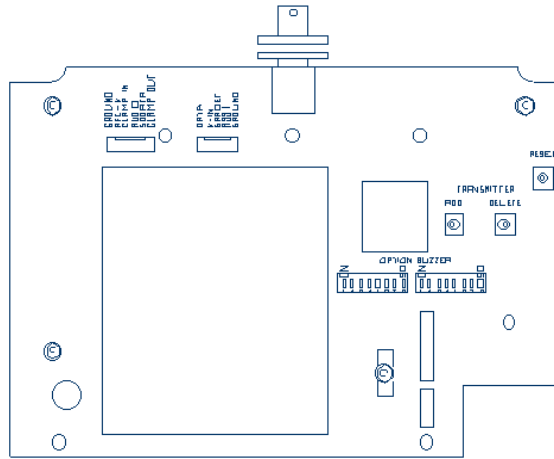

Figure 1
- 1.3 The internal view of the 7703 receiver is shown below in Figures 1, 2 and 3.